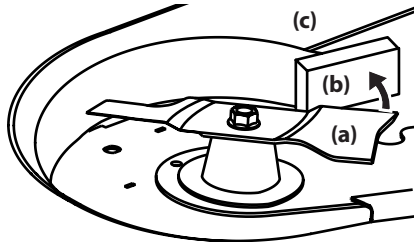

Figure 36
3. Wrap a rag around one end of the blade (a) and grasp it to prevent it from turning, or secure the blade (a) by placing a block of wood (b) between the blade (a) and the deck housing (c). See Figure 36.